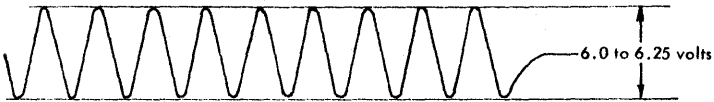

Figure 2-3. Voltage Output of Second Linear Amplifier
3. Use a 1-to-1 or a X10 compensated probe with a wide band (2 mc or greater) preamplifier. Sync on index; use an expanded scale of about 50 microseconds per cm, and observe an AGC burst on pins A and F of the second Linear Amplifier (ANF-) (Figure 2-3).